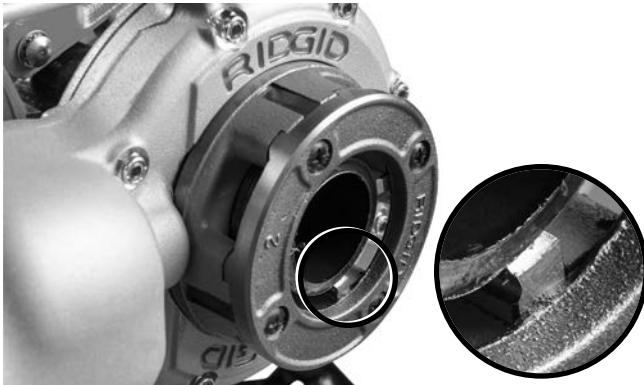

Figure 10 – Pipe Even with Edge of Dies
6. Keep switch depressed until end of the pipe is even with edge of the dies (*Figure 10*). Watch to make sure Power Drive does not run into the support device. Release the switch button. Let the power drive come to a complete stop.